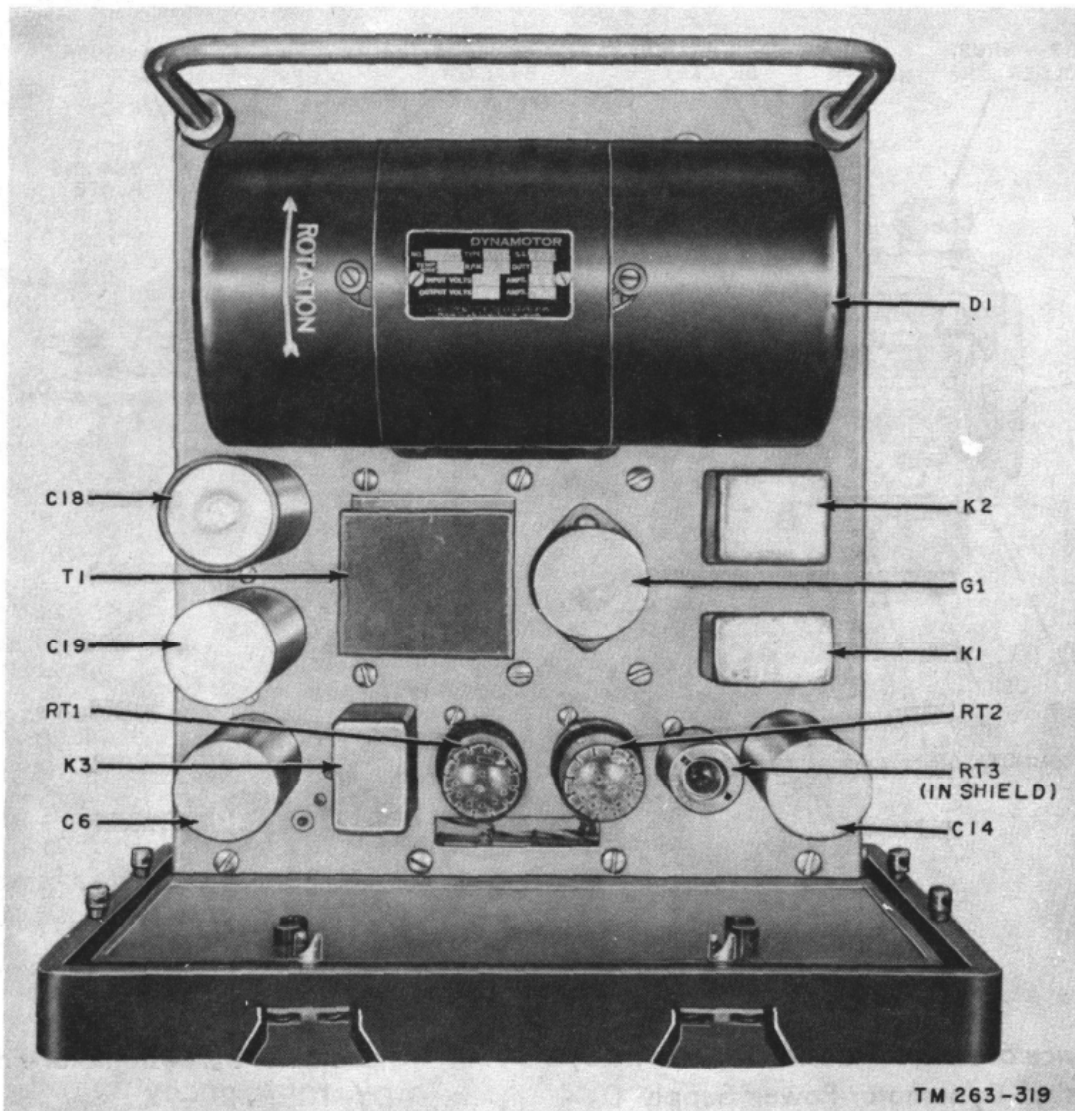

Figure 145. Dynamotor-Power Supply DY-105/GRC-9X, top view of chassis.
b. Remove the screw that fastens each end cover (fig. 145) of the dynamotor D1.
Refer to figures 145 through 147 for component locations and to figure 174 for the schematic diagram.